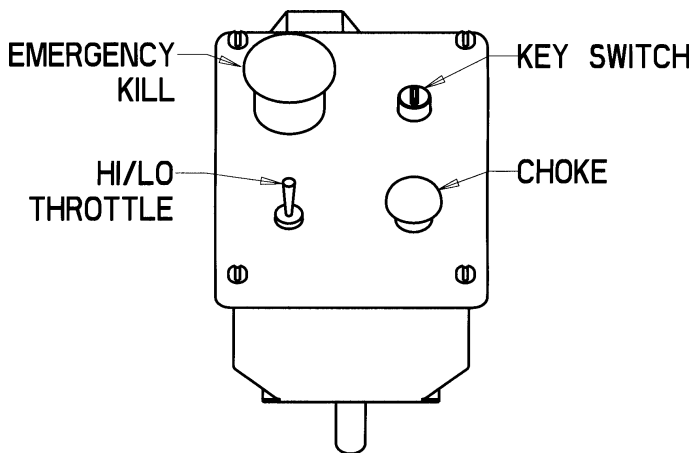

Figure 12. Electric Box
1. Electric Box (Figure 12).
The key switch, shown in Figure 12, is located to the right of the kill switch. The key switch should not work if the kill switch is in the down "Down" position.
- ⇒ Put the two drive tube direction control levers shown in Figure 12 in the “Middle” position.
- ⇒ Adjust the drive tube speed control lever shown in Figure 12 to the “Straight Up” position.